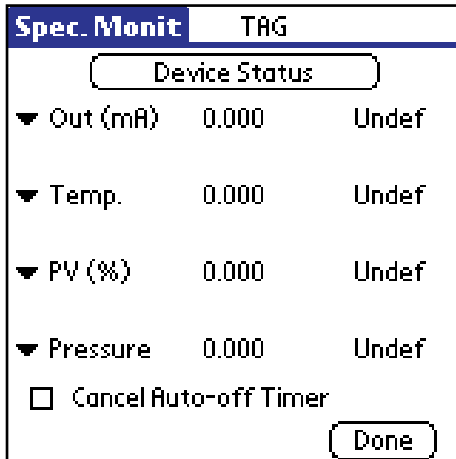

Fig. 8. - Specific Monitor Screen
2. Select the desired 4 variables to log from the 4 drop down menus on the Specific Monitor screen (Figure 8).